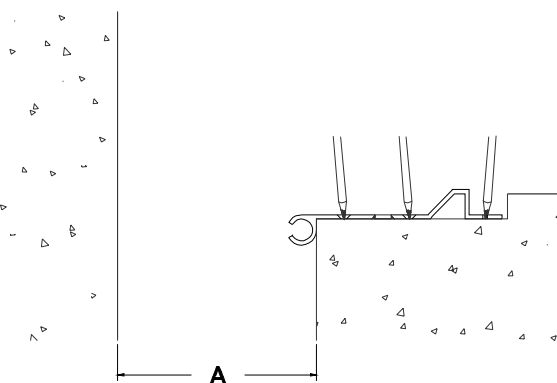

Figure 4
STEP 6. Select a base member and the corresponding hinge. Place the base member into the blockout in its installed position. Ensure that the base member is level, flush with the finished floor, and plumb with the edge of the joint. Using the base member as a template, mark the locations for the anchors on the concrete (see Figure 4). Remove the base member from its installed position, and drill the anchor holes for the base member anchors into the concrete at the marked locations. Drill the anchor holes 1/4" deeper than the length of the anchors. Clean away all dust and debris from the blockout.